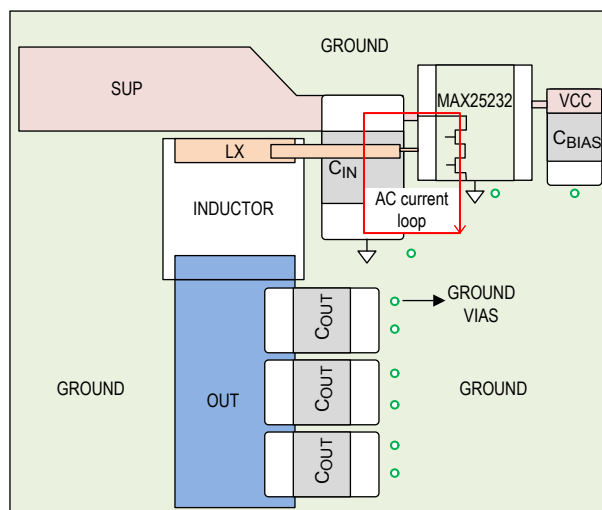

Figure 2. Recommended PCB Layout for MAX25232
1. Place the input capacitor ( $C_{IN}$ ) close to the device to reduce the input AC-current loop. AC current flows on the loop formed by the input capacitor and the half-bridge MOSFETs internal to the device (see Figure 2). A small loop would reduce the radiating effect of high switching currents and improve EMI functionality.